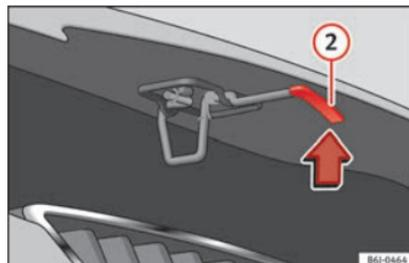

Fig. 6 Cam under the bonnet
- Lifting up the bonnet: press the release catch under the bonnet upwards »» Fig. 6 ②. The arrester hook under the bonnet is released.